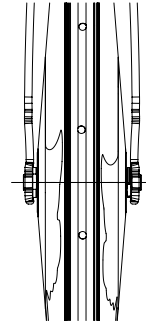

Fig. 12
- Engage the wheel in the fork, aligning the holes in the fork with the holes in the wheel pivot (Fig. 12).